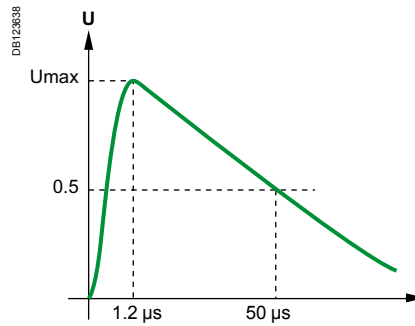
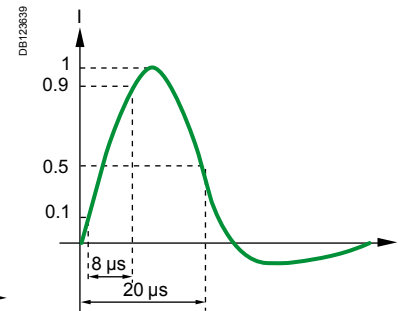

Fig. 2: 8/20  $\mu$ s normalised current waveform
Fig. 3: 1.2/50  $\mu$ s normalised voltage waveform
- Lightning strikes: these voltage surges are represented normatively by a 1.2/50  $\mu$ s voltage waveform (see Fig. 2). The currents induced by these voltage surges are represented by a normalised 8/20  $\mu$ s waveform (see Fig. 3).